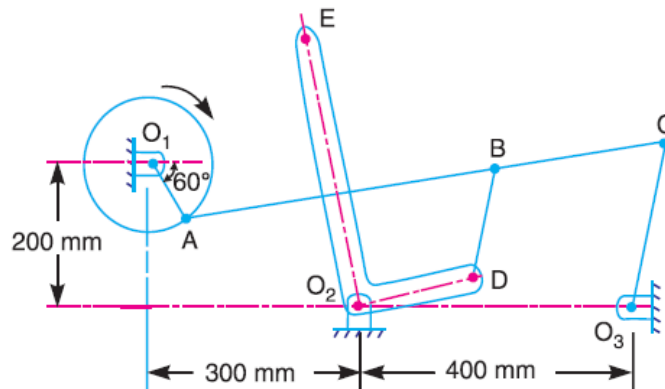

Fig. 2
13. The mechanism of a wrapping machine, as shown in Fig. 2, has the following dimensions: